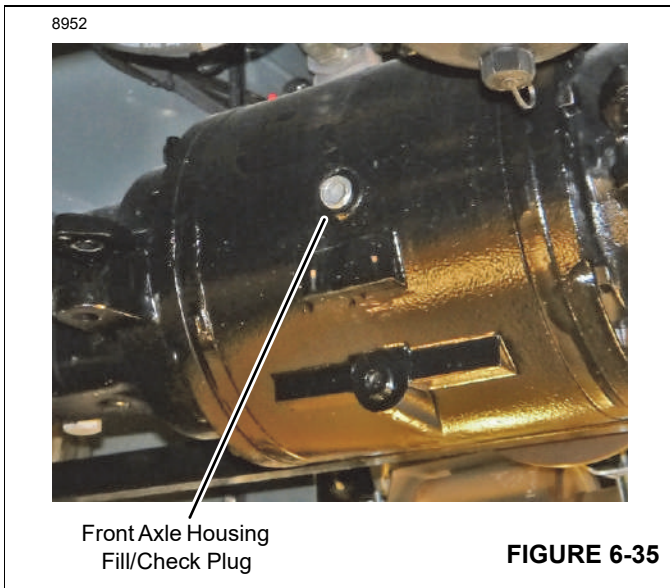
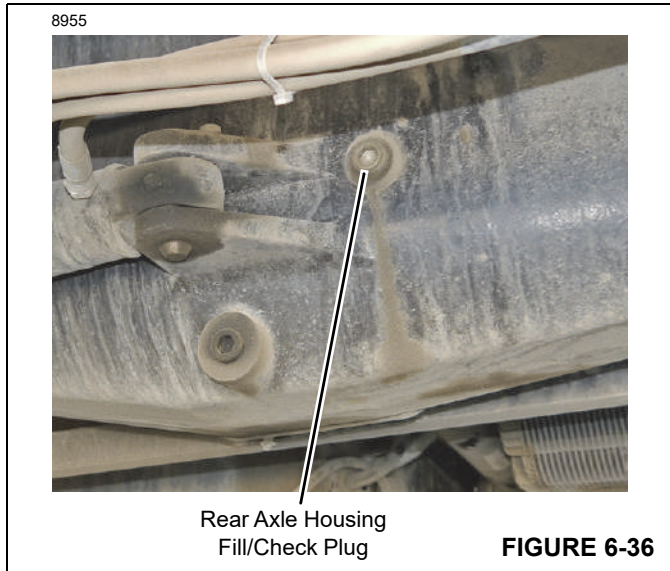

FIGURE 6-35
FIGURE 6-36
1. At either axle, clean around the axle housing fill/check plug (Figure 6-35 or Figure 6-36) and remove it.